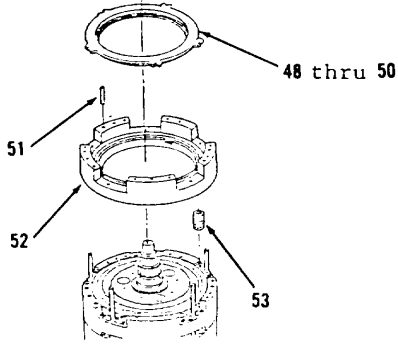

Figure 14-52.
- 29. Install ten springs (53), housing (52), two dowels (51) and items 50 thru 48 as an assembly (Figure 14-52).